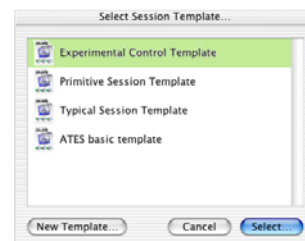

Figure D-2. Select Experimental Control Template
- 2 Choose Experimental Control Template and click the Select button (Figure D-2).